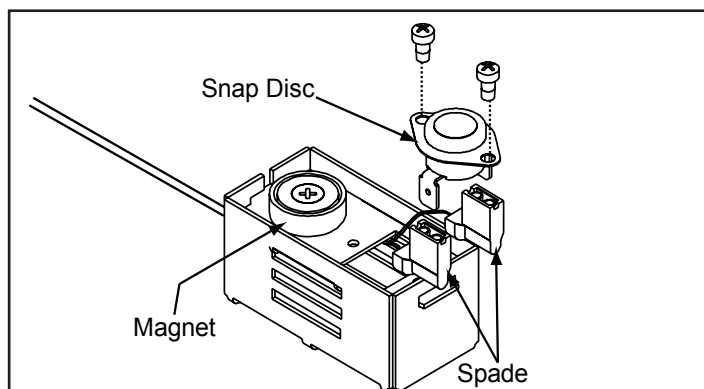

Figure 20.1
4. Pull the snap disc and spade connectors up and out of bracket as shown in **Figure 20.1**